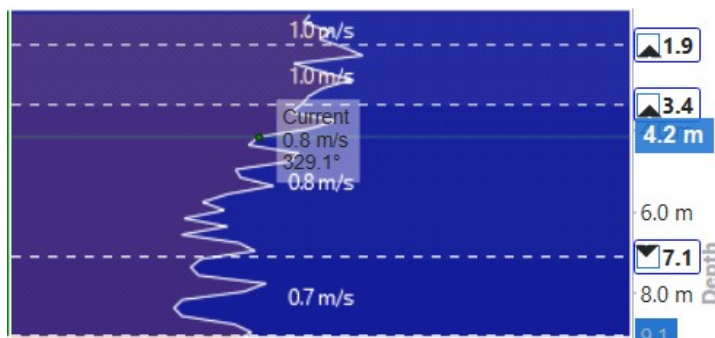

Figure 69: Cursor read-out pops up when hovering over the plot
When you hover the mouse over the plot area a cursor read-out will pop up, showing the current (component) value for that depth, and, in case you selected the full current magnitude (V), its direction. A horizontal line through the cursor position indicates the depth. The depth value shows in a blue box on the depth axis to the right of the plot. Figure 69 shows an example.